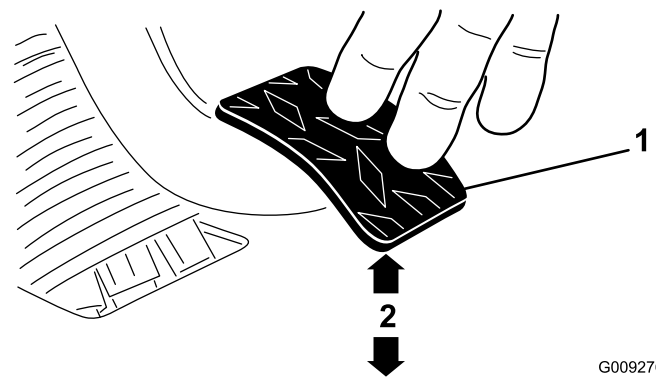

Figure 58
3. Adjust the jam nuts or ball joint until the rear edge of the clutch pedal is 9.2 to 9.8 cm (3-5/8 to 3-7/8 inches) from the top of the floor plate diamond pattern, when you apply 1.8 kg (4 lb) of force to the pedal (Figure 58).